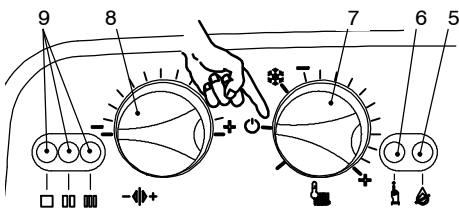

Fig. 8.5
- 8 Turn the boiler OFF positioning the function selector 7 as indicated in Fig. 8.5.